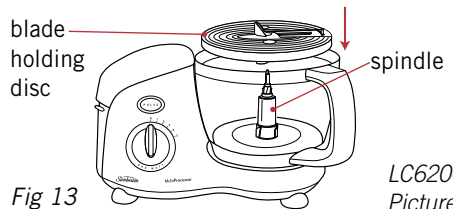

Fig 13
3. Fit the blade holding disc over the spindle and press firmly into place, see Figure 13.